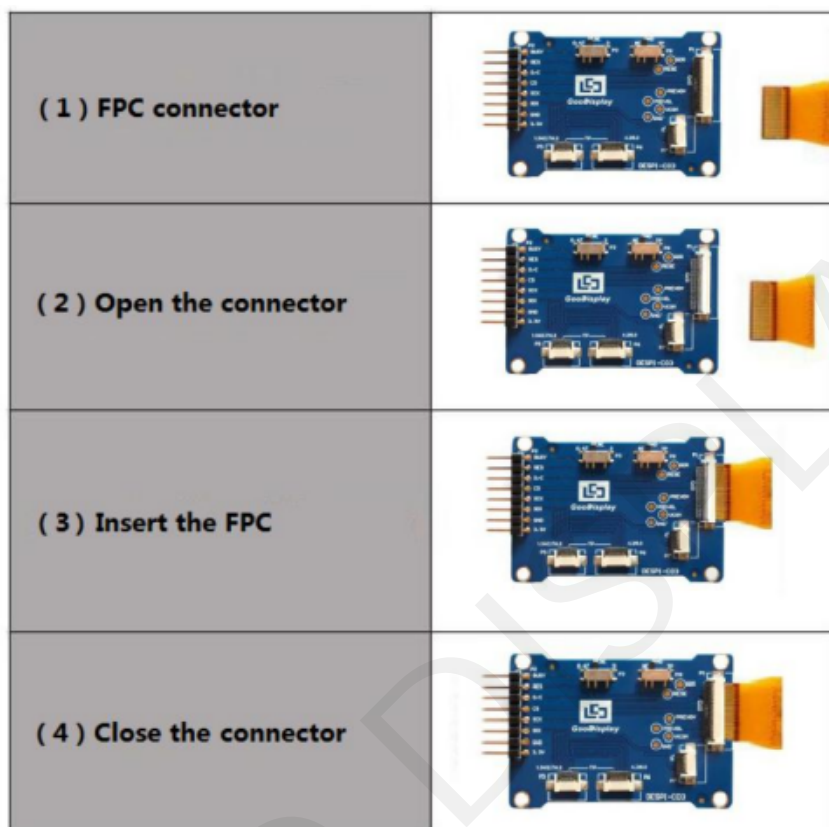

Figure 5 : Connection between DESPI-C03 and e-paper
2) Insert the e-paper FPC gold finger upward into the P1 connector of the adapter board as shown in Figure 5.